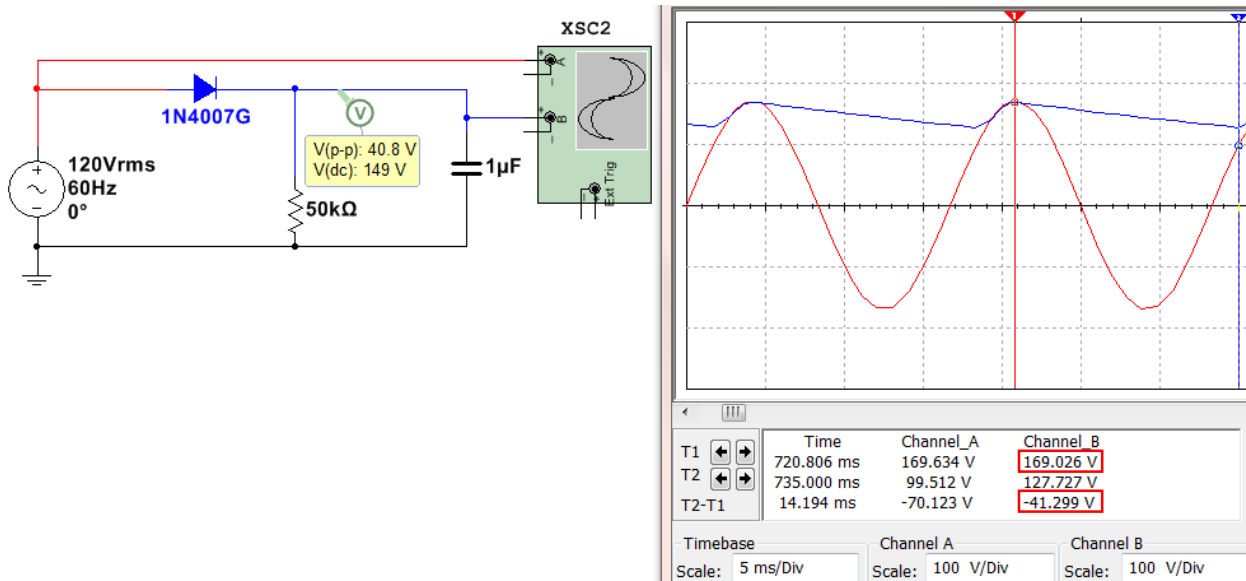

Figure 6.16: Half-Wave Peak Rectifier.
Rectification is the first step in converting an AC signal to a DC signal. The next step would be to add a capacitor in parallel with the load resistor where V_{o,pk} is measured so that the voltage will not be allowed to drop very fast due to the time constant of the capacitor. Once the “smoothing capacitor” is added the rectifier is called a “Peak Rectifier”. An example of a half-wave peak rectifier is shown in Figure 6.16. The calculations and Multisim measurements of a **half-wave peak rectifier** are shown below (See equation summary in Table 6.1).
- **V_s** = peak input voltage = $120 \cdot \sqrt{2} = \mathbf{169.7 \text{ V}}$ (169.634 V in Multisim - Figure 6.16).
- **V_{o,pk}** = peak output voltage = $V_s - 0.7 \text{ V} = \mathbf{169 \text{ V}}$ (169.026 V in Multisim - Figure 6.16).
- **V_r** = ripple voltage (V_{o,pk} – minimum V_{out}) = $\frac{V_{o,pk}}{fRC} = \frac{169}{60 \cdot 50k \cdot 1\mu} = \mathbf{56.3 \text{ V}}$ (~ 41.3V in Figure 6.16).
- **V_{o,DC}** = the approximate DC voltage (centerline of the ripple). In Figure 6.16 V_{o,DC} is equal $169 - 0.5 \cdot V_r = 169 - 0.5 \cdot 41.3 = \mathbf{148.4 \text{ V}}$. The DC voltage probe in Figure 6.16 measures the DC voltage as 149 V.
The equations for half-wave and full-wave peak rectifiers that were shown in Figures 6.16 and 6.17 are summarized in Table 6.1. **Note:** The **Full Wave Center Tapped** equations are shown, but this type of rectifier circuit is not covered in detail in this eBook.